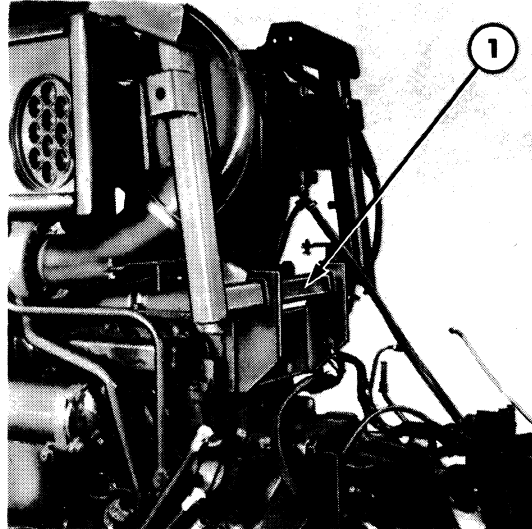

Figure 8
10. Remove the intercooler support bracket at the rear of the engine, Figure 8.